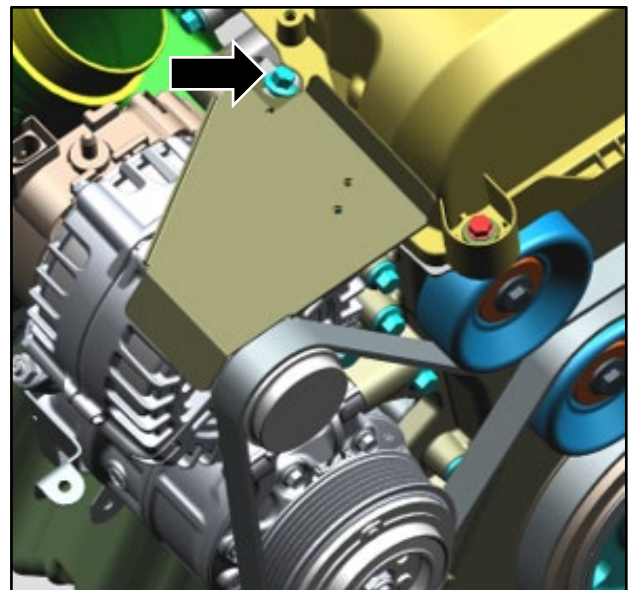

Figure 5
6. Install and torque the bolt that attaches the alternator splash shield to the engine to 25 Nm (refer to Figure 5).